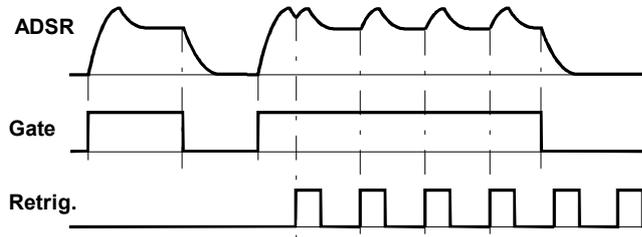

Fig. 2: Envelope re-trigger system
The envelope can also be **re-triggered**, ie. start from scratch again, each time a trigger signal is sensed at the Retrigger input socket, when the gate is still open (see Fig. 2 on page 5).
Socket ② is the ADSR's **retrigger input**, which can be connected, for instance, to the output from an LFO. That means that *while the gate is open*, the envelope re-triggers every time it senses a pulse from the LFO (see Fig. 2).